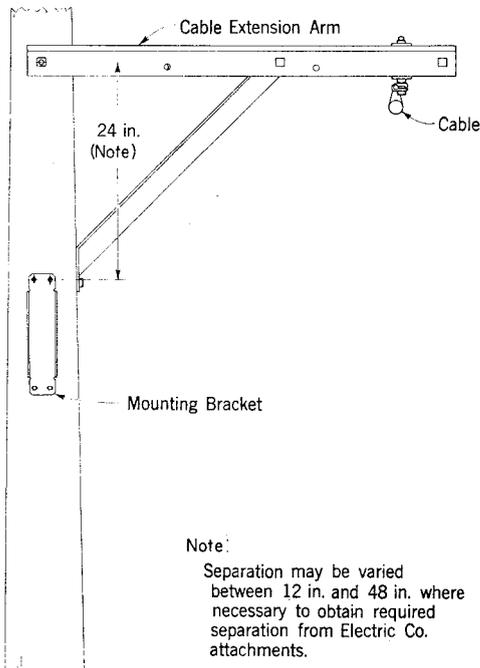

Fig. 21—Mounting Bracket Installed on a Pole Carrying a Cable Extension Fixture
4.02 Where the terminal is to be placed on a pole carrying a cable extension fixture, locate the mounting bracket on the face or back of the pole as shown in Fig. 21.